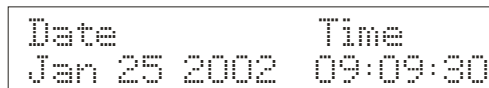
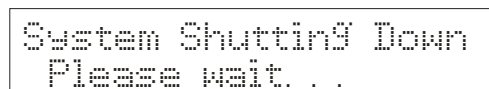

Figure 6
Figure 10
2. It then displays current date and time. See **Figure 6**. This display will also appear when the meter is turned off while still connected to the power supply. See **Figure 6**.
1. **To turn the meter off** press **ON/OFF**. The display flashes *System Shutting Down, Please wait...* See **Figure 10**. Then, the date and time display will appear. See **Figure 6**. The date and time will continue to display until the power supply is disconnected.